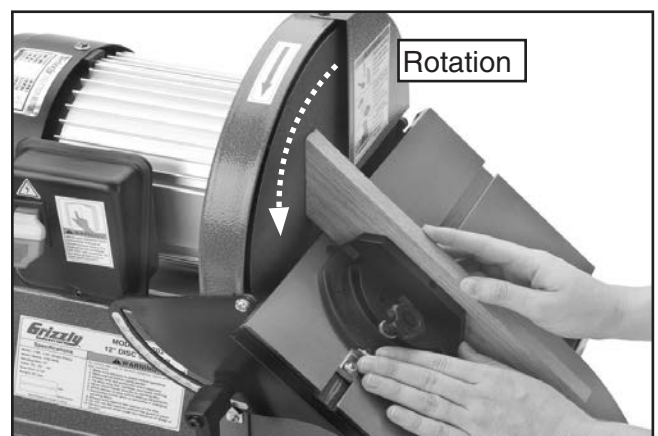

Figure 13. Sanding with table angled.
2. Use the miter gauge to hold your workpiece in position, and with light, but firm pressure, push the workpiece slowly into the down-spin side of the rotating disc (**Figure 13**).